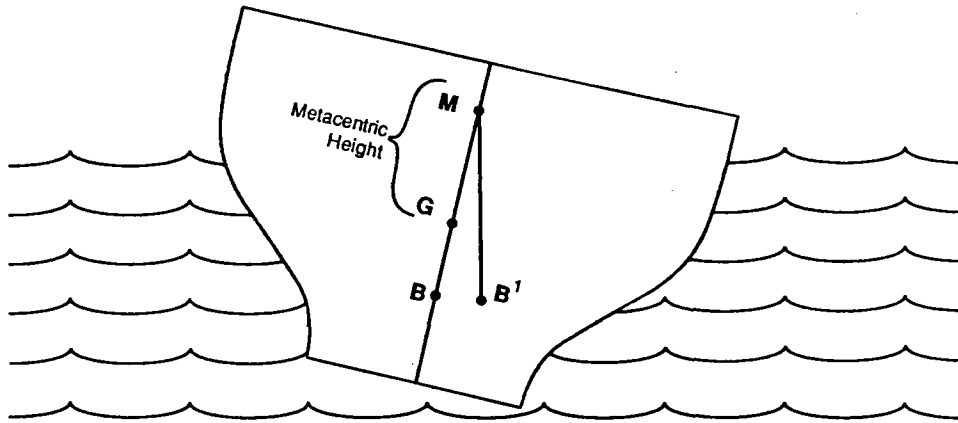

Figure 1 M, Metacenter of a boat; G, center of gravity; B, center of buoyancy; B^1 , Center of buoyancy when boat is displaced.
The rolling-period test involves rolling your vessel until it is rolling well and measuring the time it takes for the vessel to roll one complete period from one side to the other and back again. The metacentric height of your vessel is mathematically related to this roll period. (See figure 1.) The metacentric height is the distance from the center of gravity to the intersection of two vertical lines (m), one of which passes through the center of buoyancy (B) when the ship is in equilibrium, the other through the center